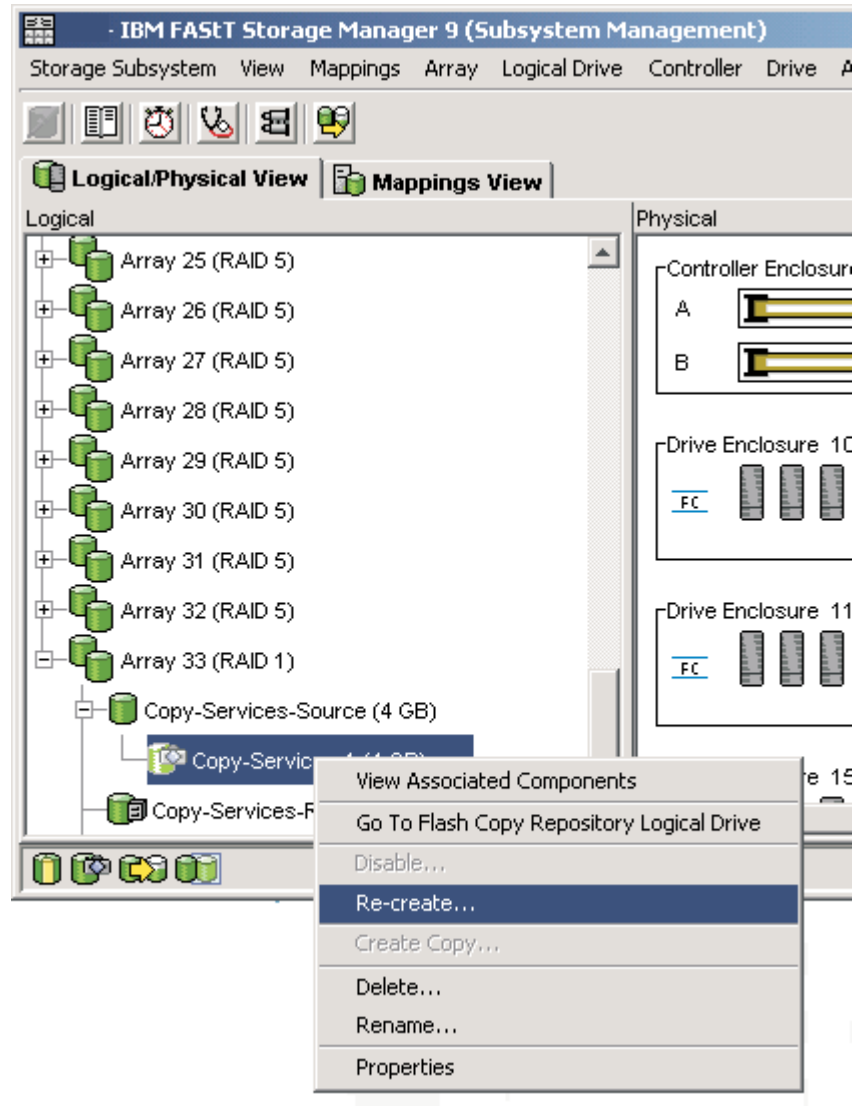

Figure 19. Recreating a FlashCopy logical drive
1. Select the FlashCopy logical drive. Right-click and select **Re-Create**, as shown in Figure 19 on page 49.